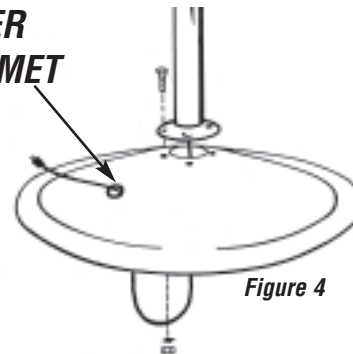

Figure 4
5. Secure fan head assembly to upper column using 1/2" x 1" hex bolt, star washers, lock washers and hex nuts; and 1/4" x 1" bolt, washer, lock washers, and hex nut. (See fig. 4).